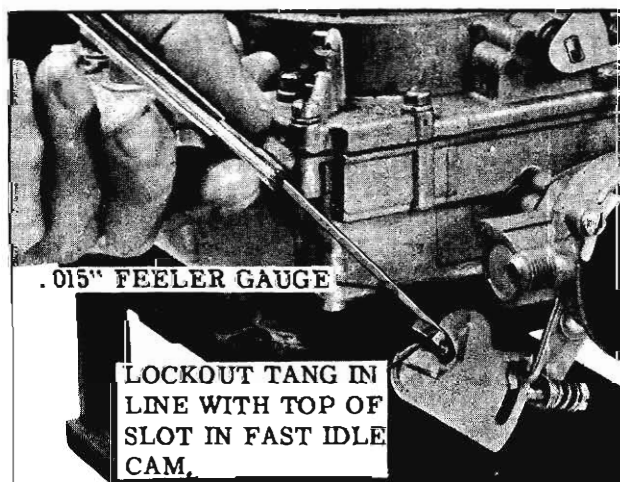

Fig. 4-26 Secondary Throttle Lock-Out Adjustment
1. Measure the clearance between the lockout tang and the top edge of the slot in the fast idle cam. The clearance should be $.015'' \pm .005''$. (Fig. 4-26)